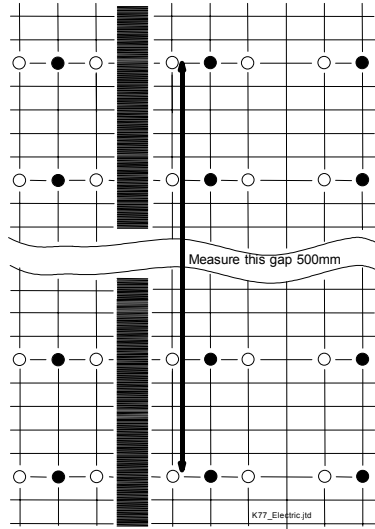

Figure 1 Test Pattern 1
2. (Figure 1) Check the dimension between any 50 squares on test pattern 1. The dimension should equal 500 mm (1 square = 10mm); SPECIFICATION: ± 1.5 mm